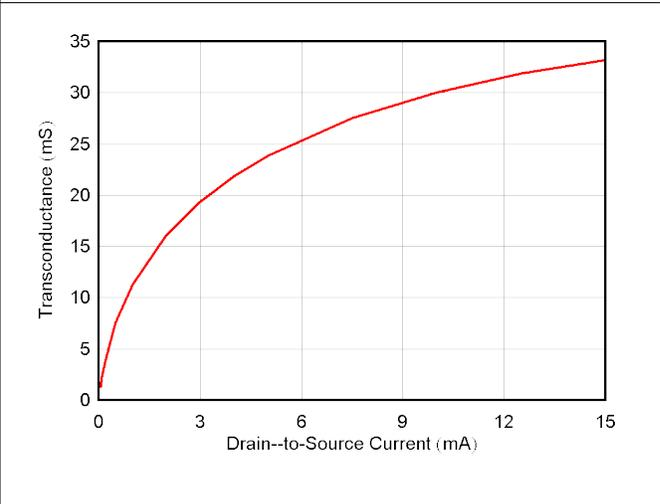
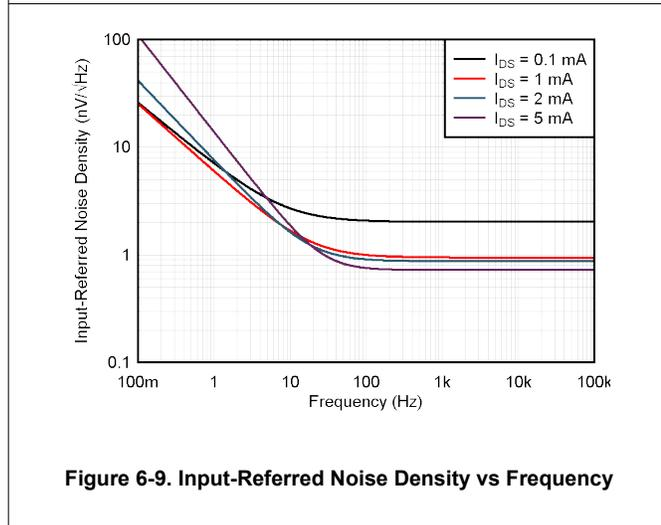
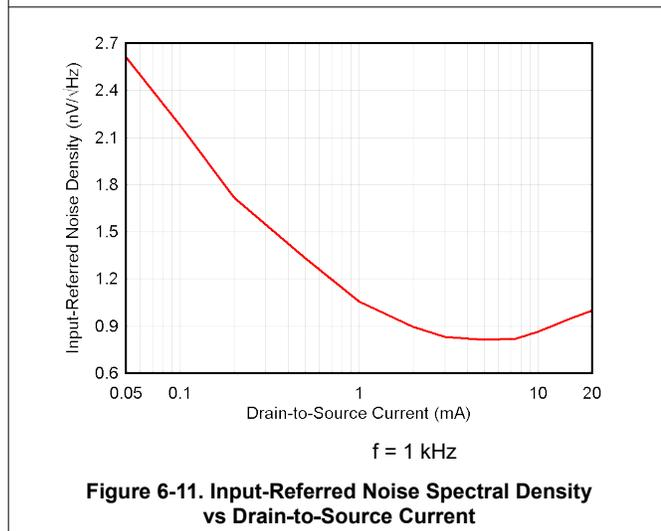
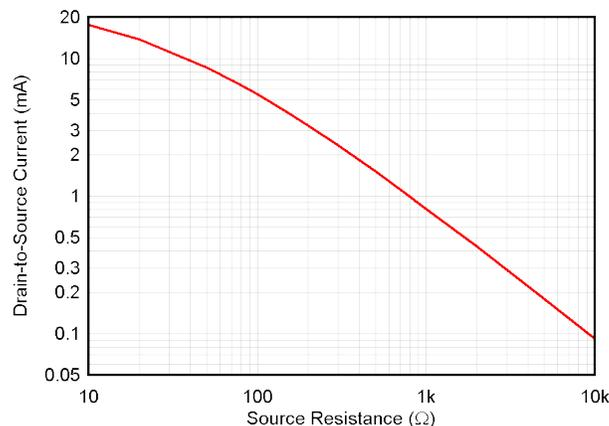

Figure 6-4. Common Source Transconductance vs Drain-to-Source Current
Figure 6-9. Input-Referred Noise Density vs Frequency
Figure 6-11. Input-Referred Noise Spectral Density vs Drain-to-Source Current
Figure 9-3. Drain-to-Source Current vs R_S , $V_{DS} = 5\text{ V}$
Designs that feature operational amplifiers (op amps) as the primary gain stage are common, but these designs are not able to achieve the lowest possible noise as a result of the inherent challenges and tradeoffs required from a full operational amplifier design. Noise in JFET designs can be evaluated in two separate regions: low-frequency flicker noise and wideband thermal noise. Flicker, or $1/f$ noise, is extremely important for systems that require signal gain at frequencies less than 100 Hz. The JFE150 achieves extremely low $1/f$ noise in this range. Thermal noise is noise in the region greater than 1 kHz and depends on the gain, or g_m , of the circuit. The g_m is a function of the drain-to-source bias current; therefore, thermal noise is also a function of drain-to-source bias current. Figure 6-9 shows both $1/f$ and thermal noise with multiple bias conditions measured using the circuit shown in Figure 7-1.
Generally, higher gain results in improved noise performance. Gain increases as the bias current is increased as a result of increasing gm (see Figure 6-4). As a result, the input-referred noise decreases as bias current is increased (see Figure 6-9). Any JFET design must make a tradeoff between current consumption and noise performance. The JFE150, however, delivers significantly lower noise performance than most operational amplifiers at the same current consumption. The bias current (I_{DS}) is set by the value of the source resistor, R_S , and the threshold voltage, V_T , of the JFE150. A graph showing nominal I_{DS} vs R_S is shown in Figure 9-3.
R _S	Source resistor. Used to set bias of JFET; see Figure 9-3. Resistor thermal noise directly impacts noise performance.
- The JFE150 bias current is set by selecting the desired bias current and noise tradeoff (see Figure 6-11). The input-referred noise is dominated by the JFE150 bias current and gain. To set the bias current point, adjust the source resistance according to Figure 9-3.